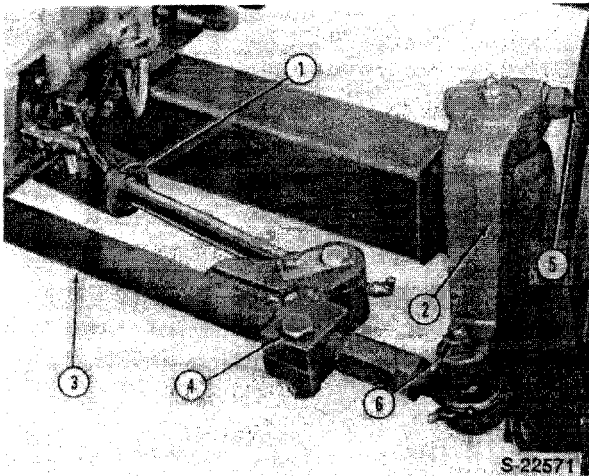

Figure 5
The top of the wheel spindles are splined to accept the spindle arms (2) which are retained by means of a clamp bolt (4), Figure 5.
The power steering cylinder (1), is located between the front axle and tie rod, Figure 5.
2. Remove the castellated nut and remove the tie rod ball joint pin from the spindle arms, Figure 5.
1. Remove the spindle arm clamp bolts, Figure 5.